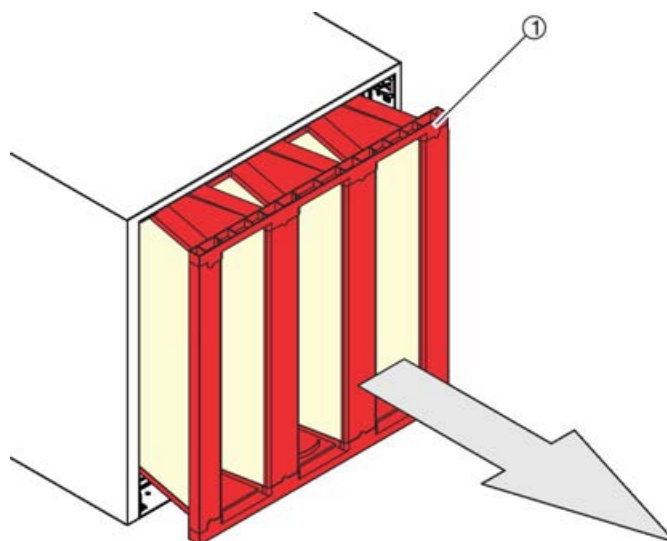

Fig. 20: Removing the filter element
4. ▶ Pull out the filter element (Fig. 20 /1).